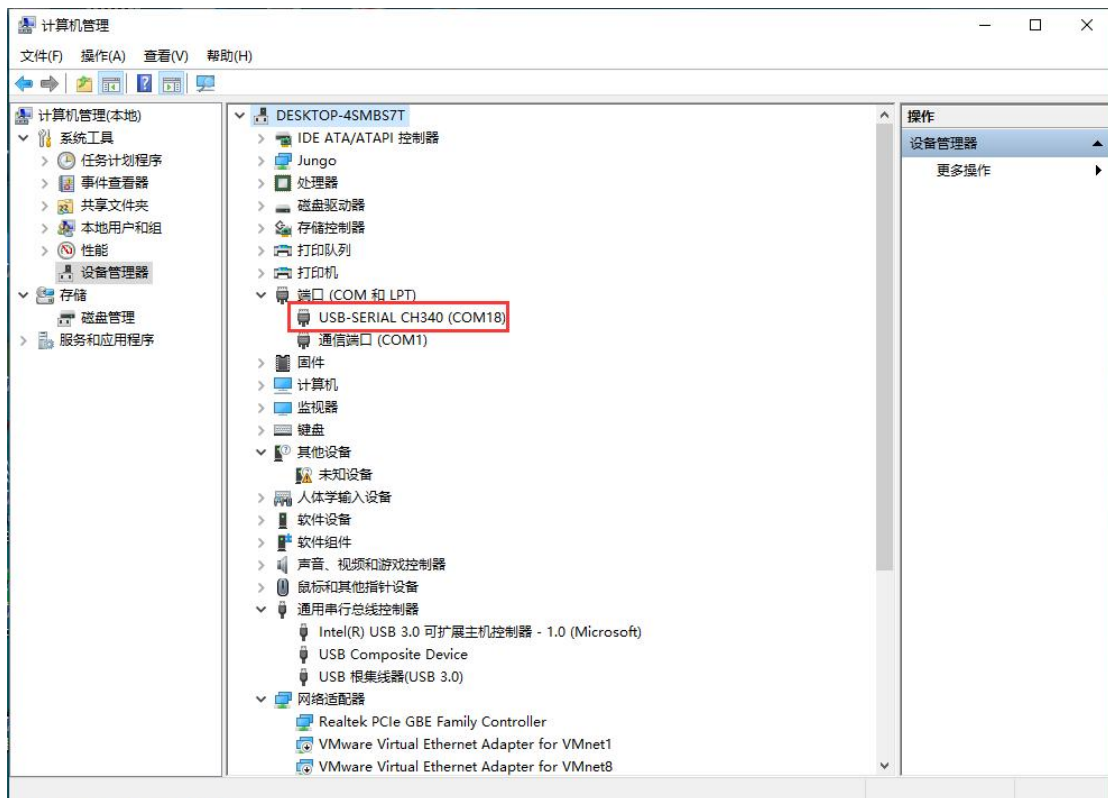

Figure 5-6 Uart port number query interface
(4) View the port number corresponding to the UART in the device manager of the computer BB, as shown in Figure 5-6.